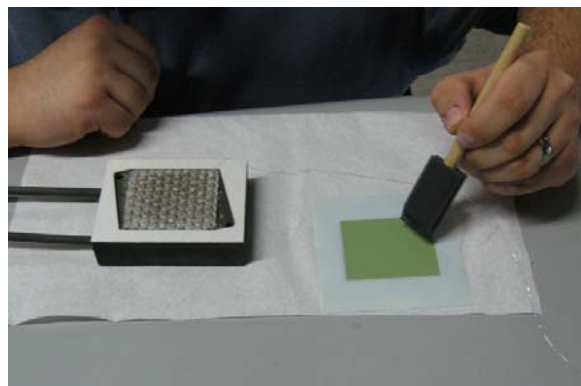

Figure 7
7. Evenly paint active area of cell with Ni metal ink (Figure 7)